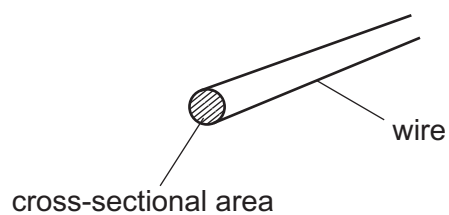

Fig. 4.1
- 4 You are going to determine the cross-sectional area of a piece of resistance wire. Fig. 4.1 shows the cross-sectional area of a wire.